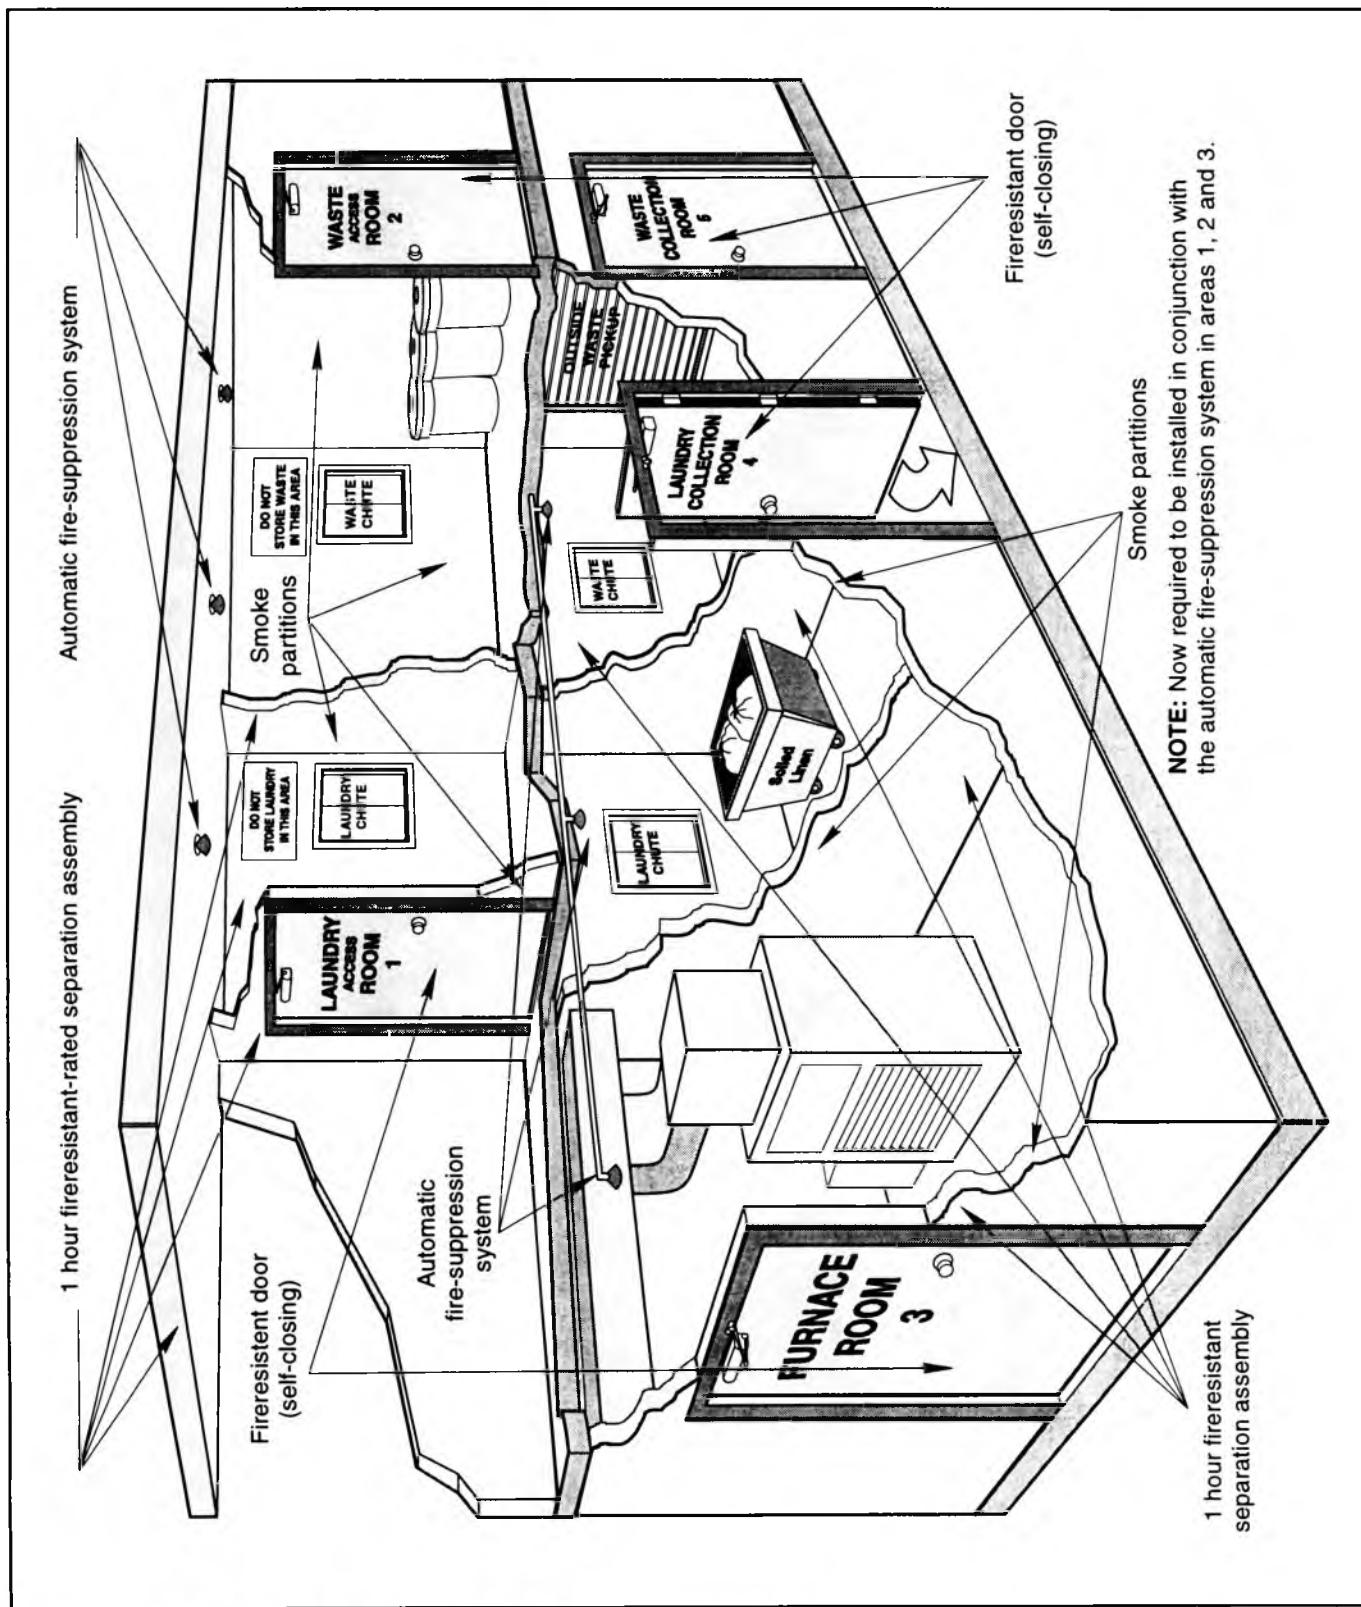

Figure 18-18: Building code requirements for fire-suppression systems.
44. Which of the following best describes an automatic fire-suppression system like the one shown in Figure 18-18?